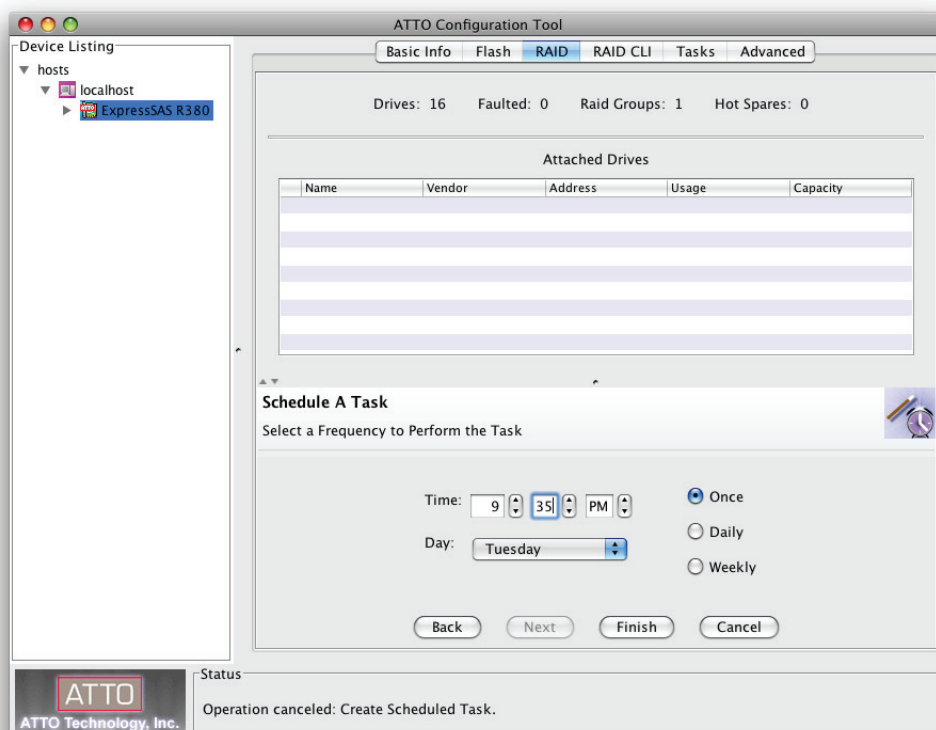

Figure 26
4. Select the time and frequency schedule for the task to be performed. See **Figure 26** on page 29.